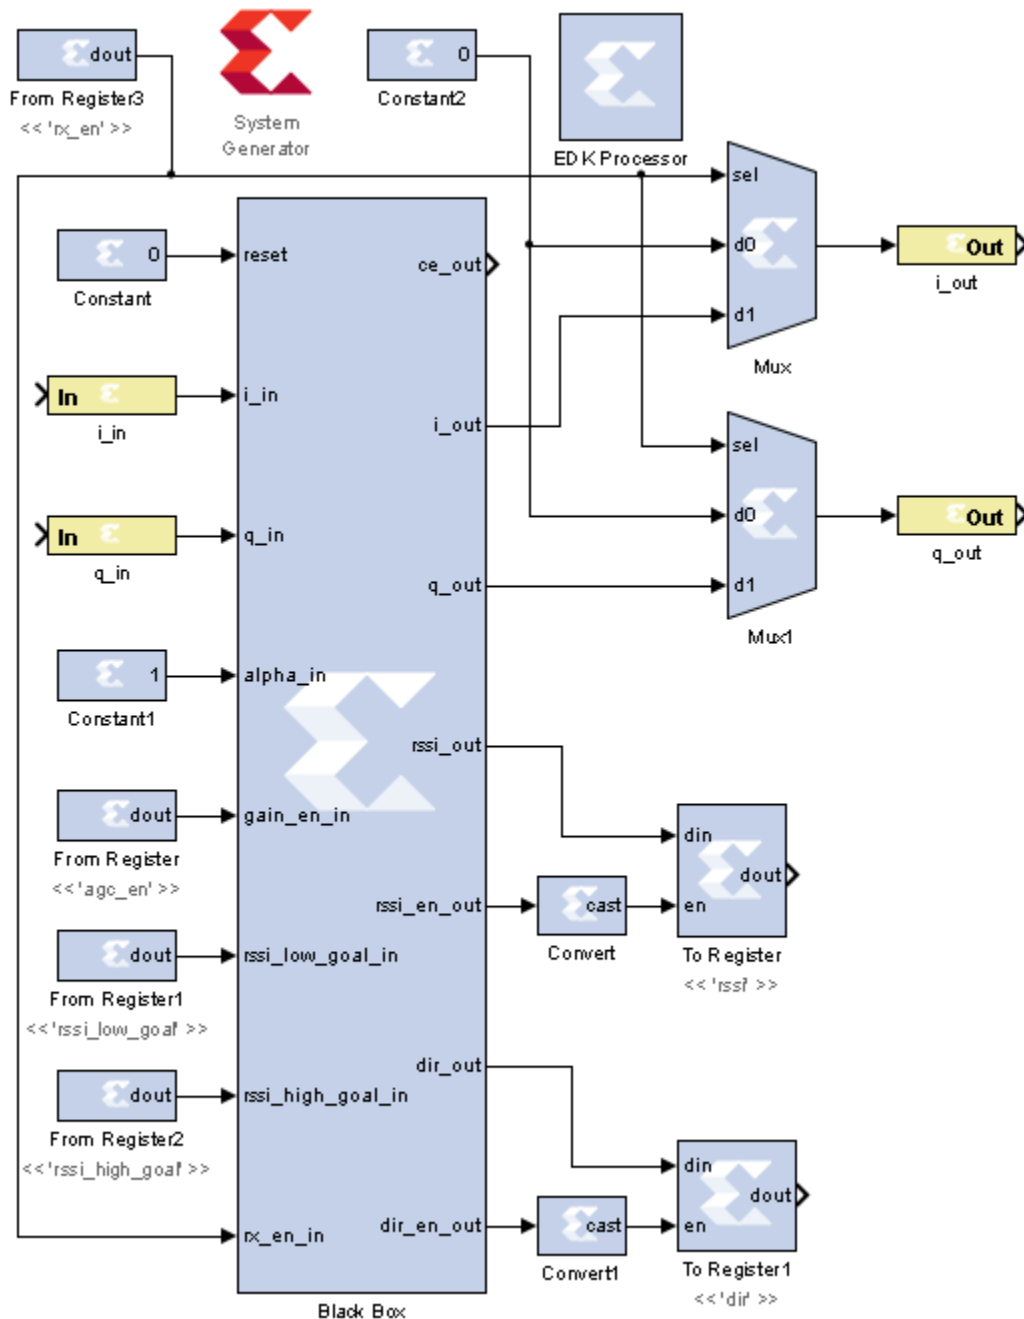

Figure 2-5: Simulink model for receiving ADC output and applying DC Offset Correction
The last **Simulink model**⁵ needed for this FPGA design is the DC Offset model created in the previous lab. For your reference this model is shown in Figure 2-5 below.
3. Create the Simulink model shown in Figure 2-5 using your new black box design.